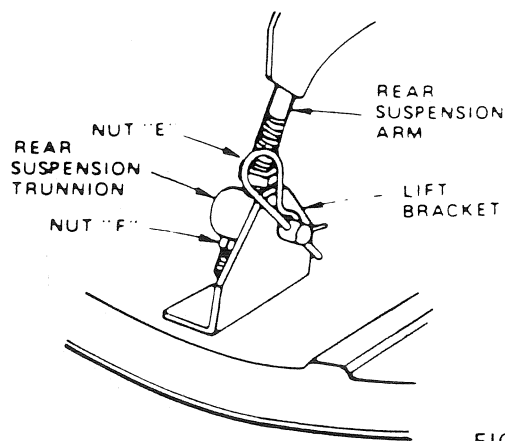

FIGURE 36
- b. To raise rear of mower, loosen nut "E" on both rear suspension arms. Screw both nuts "F" up EQUAL NUMBER OF TURNS (Fig. 36).
- d. To lower rear of mower, loosen nut "F" on both rear suspension arms an EQUAL NUMBER OF TURNS (Fig. 36).